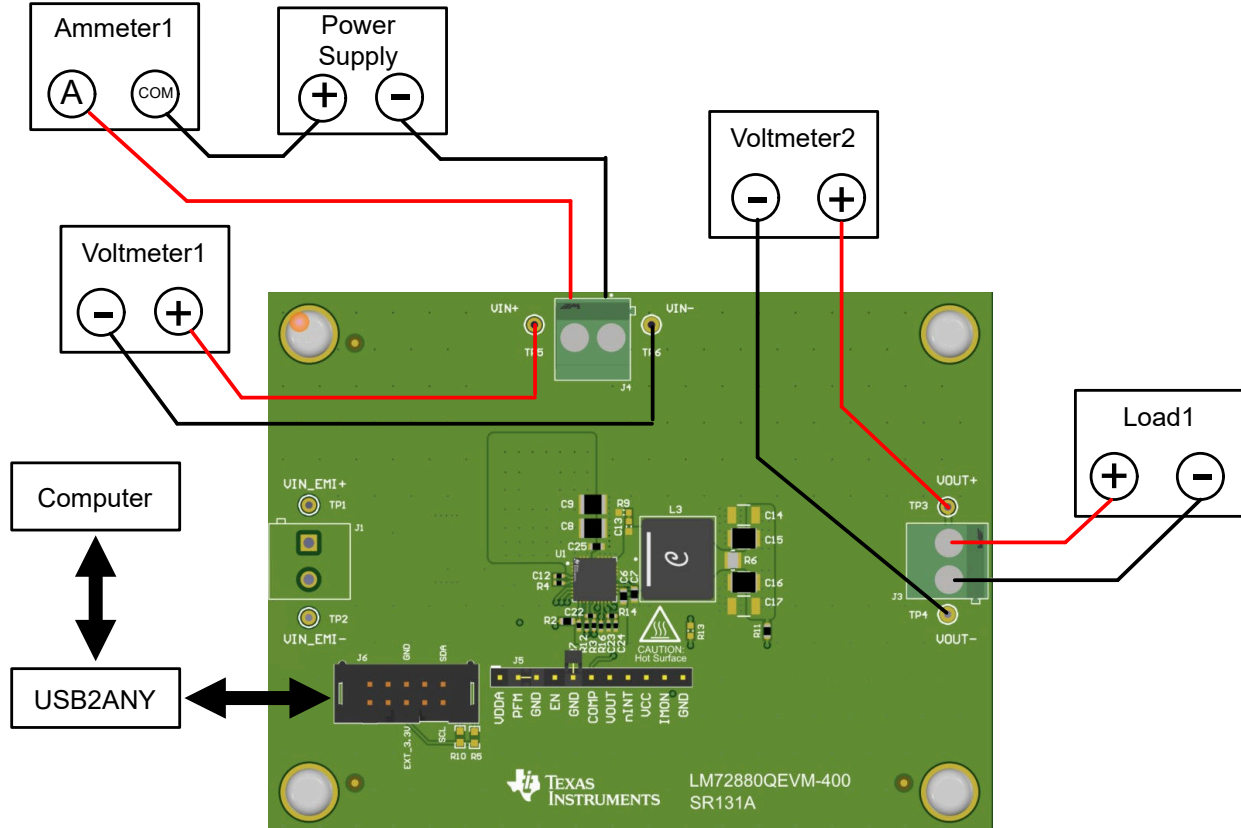

Figure 2-1. EVM Test Setup
The recommended test setup is shown in Figure 2-1. Working at an ESD-protected workstation, make sure that any wrist straps, boot straps, or mats are connected and referencing the user to earth ground before handling the EVM.
1. Prior to connecting the input power source, set the current limit of the input supply to 0.1A maximum. Make sure the input source is initially set to 0V and connected to the J4 terminal as shown in Figure 2-1.